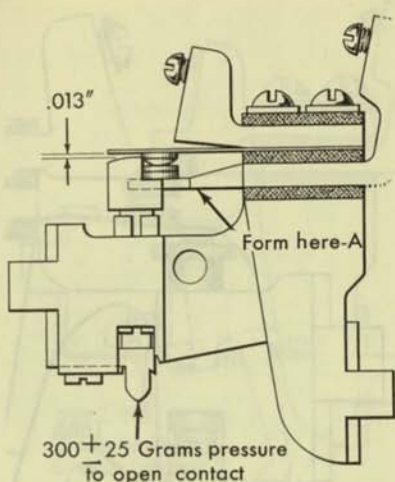

Figure 7. Normally Closed Plunger Circuit Breaker, Adjustments 1 and 2
1. The lower contact support should be formed at the point A (Figure 7) to provide a .013" clearance between the upper contact strap when it is in its normal position and the operating plunger.
2. A pressure of 300 grams plus or minus 25 grams (approximately 10.6 oz.) on the contact plunger (Figure 7) should be required to open the contact points.